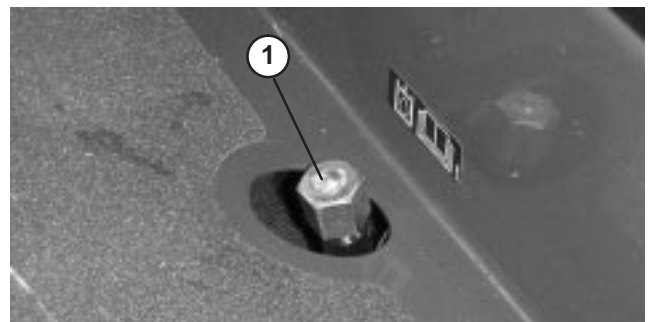

Figure 17
2. Remove dipstick cap (Fig. 17) from filler neck and wipe it with a clean rag. Screw dipstick cap finger-tight onto filler neck; then remove it and check level of fluid. If level is not within 1/2 inch (13 mm) from the groove in the dipstick (Fig. 17), add enough high quality hydraulic fluid to raise level to groove mark. Do not overfill.